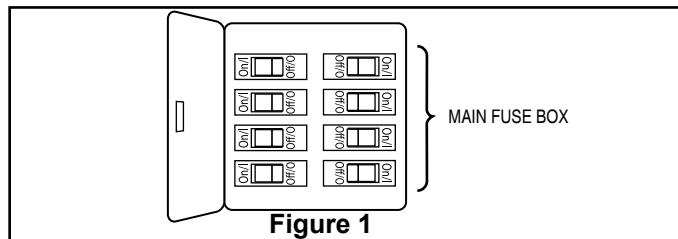

Figure 1
1. Install included minican bulbs into the sockets. (Figure 1)
1. Restore electrical power to the outlet box by turning the electricity on at the main fuse box. (Figure 1)